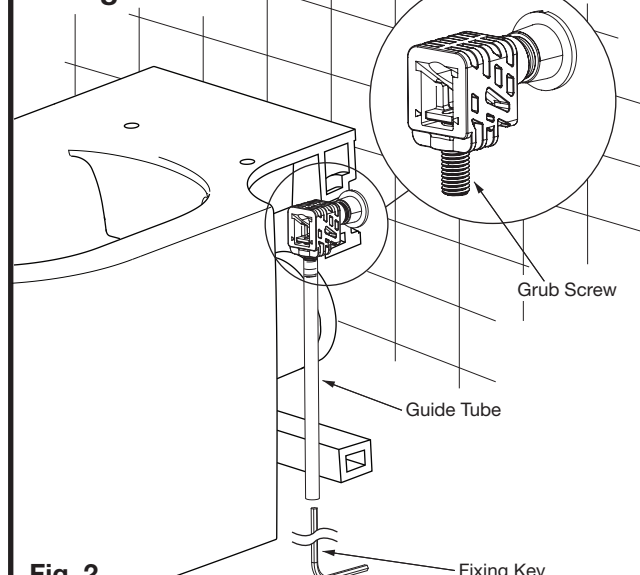

Fig. 2
- 8- Fit the plastic Fixing Bushes into the holes provided in the back of the Pan with the Fixing Rod facing down towards the floor, as detailed in **Fig. 2**.
- 11- Insert Fixing Key through the underside of the Pan into the Fixing Rods which engage the Grub Screws and tighten each Grub Screw to a maximum torque 7Nm[62 lbf-in] on both sides to hold the Pan onto the bracket, as detailed in **Fig. 2**.